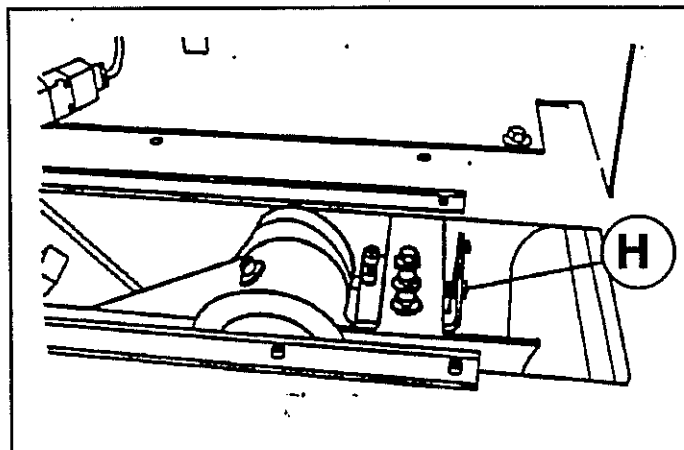

Fig.3.5
- 3- Rotate the saw spindle operating on the pulley, so that the locking pin (H fig.3.5) may fit into its hole.